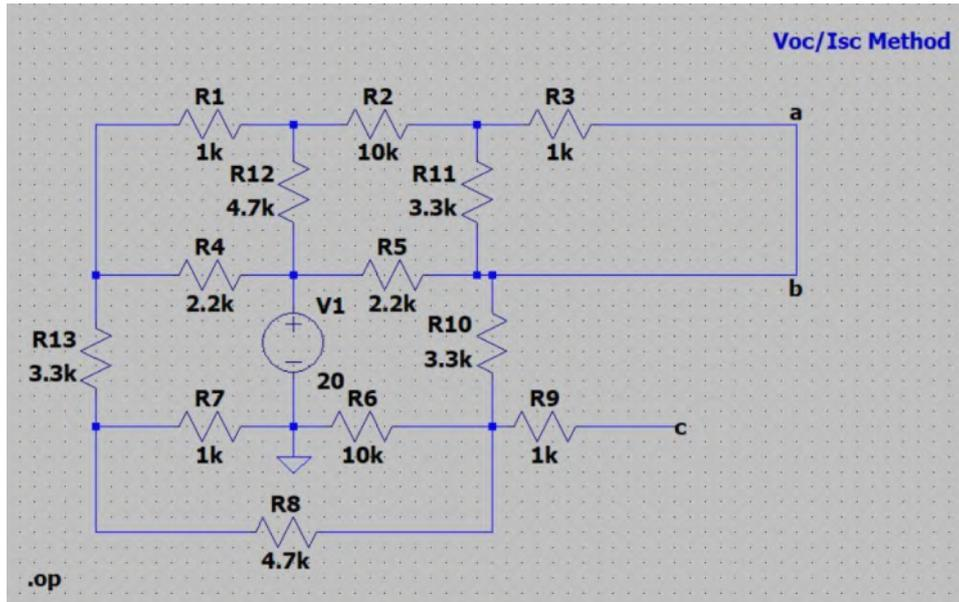

Figure: 11
- 3) Short the circuit between the nodes a and b as shown in figure 11 and perform DC Operating point analysis.